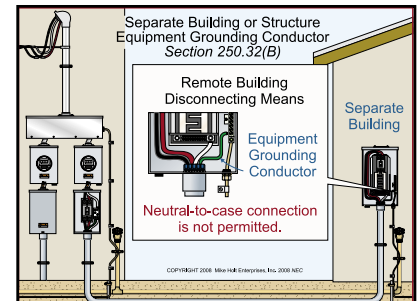

Figure 250-4
(1) Electrical System Grounding. Electrical power systems, such as the secondary winding of a transformer are grounded to the earth to limit the voltage caused by lightning, line surges or unintentional contact by higher-voltage lines.
**FPN:** An important consideration for limiting the imposed voltage is the routing of bonding and grounding conductors so that they are not any longer than necessary to complete the connection without disturbing the permanent parts of the installation and so that unnecessary bends and loops are avoided. (See Figure 250-4)
**Analysis:** This new Fine Print Note is intended to call attention to the instructions contained in Sections 800.100(A)(5), 810.21(E), and 820.100(A)(5) that grounding conductors be run as short as possible and as straight as possible. This provides an effective path to the earth for line surges caused by lightning events.